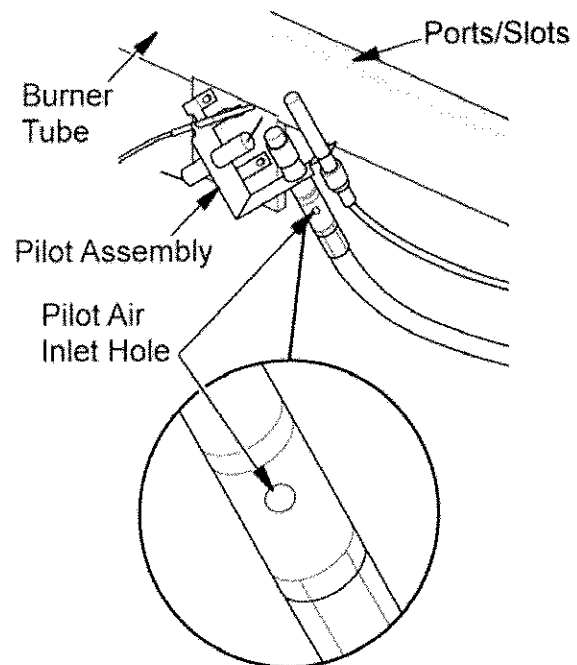

Figure 27 - Pilot Inlet Air Hole
2. Inspect burner, burner primary air holes on injector holder and pilot primary air inlets for dust and dirt (see Fig. 27).